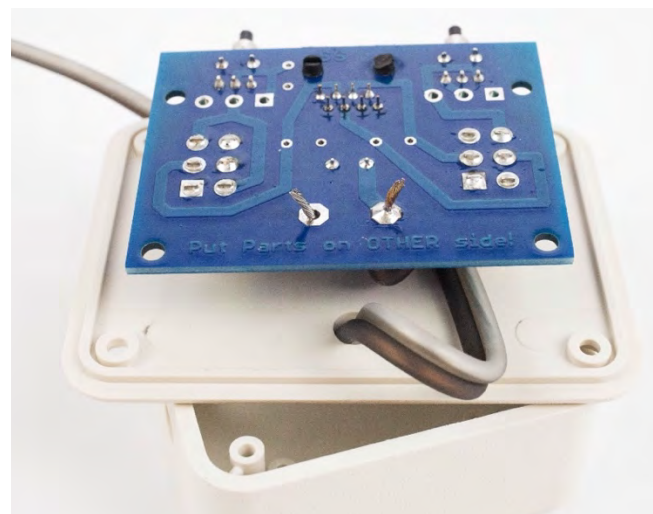

Figure 26
- ❑ Position the circuit with the toggle switch handles inserted in the control box enclosure lid. Get ready to solder. (Figure 26)